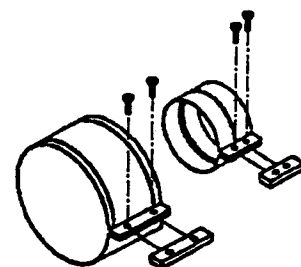

Fig. 13
- 5.5.26 Referring to Fig. 13 assemble a small maintenance clip on the outlet of the boiler flue bend. Push the inner flue tube into clip and tighten clip screws.